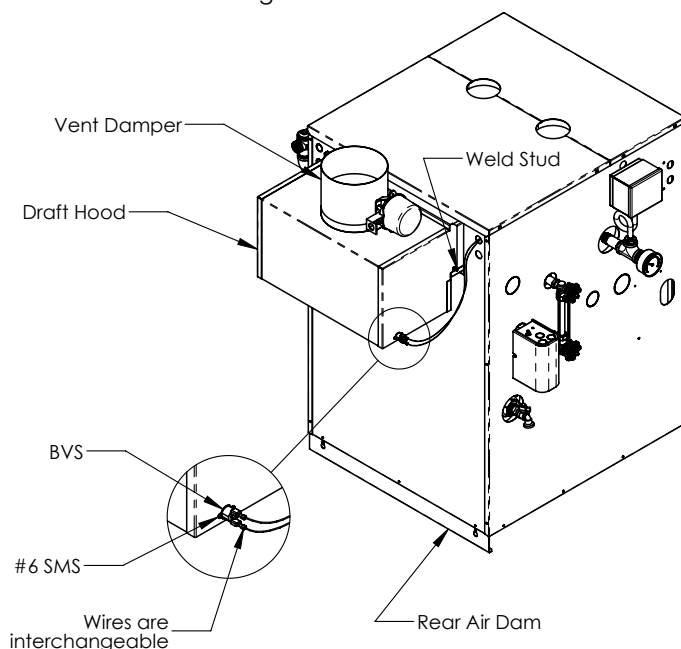

Figure 6-1: Vent Damper, Rear Air Dam and BVS Installation Diagram (STMX075 through STMX299)
- B. Mount the vent damper assembly onto diverter. See damper manufacturer instructions for more information. Do not modify either diverter or vent damper. See Figure 6-1.
Hang air dam on screws located at back of boiler. See Figure 6-1 for location.
3. Install Blocked Vent Switch (BVS). See Figure 6-1.